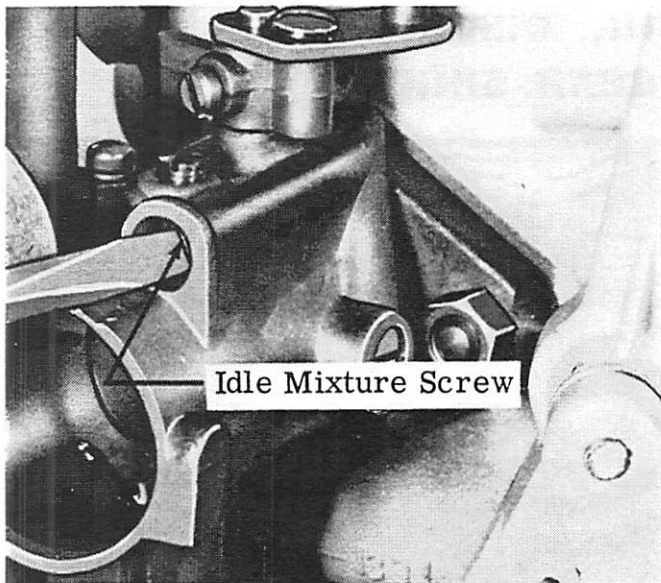

Figure 3. Low Speed Mixture Adjustment
5. With engine running at idling speed while in forward gear, turn low speed mixture adjusting needle counter-clockwise until engine starts to "load up" or fires unevenly due to over-rich mixture. (Figure 3)